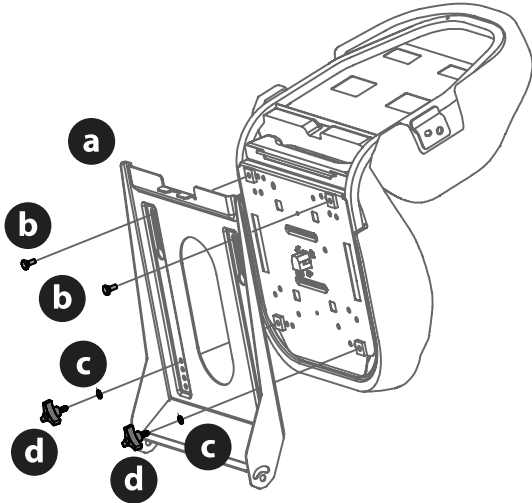

Figure 5
2. Install the seat onto the seat pan (a) using hardware provided (Figure 5).
- a. For a Knob Adjust seat insert bolts (b) in the rear holes and lock washer (c) and knobs (d) in the front. Tighten securely (Figure 5).